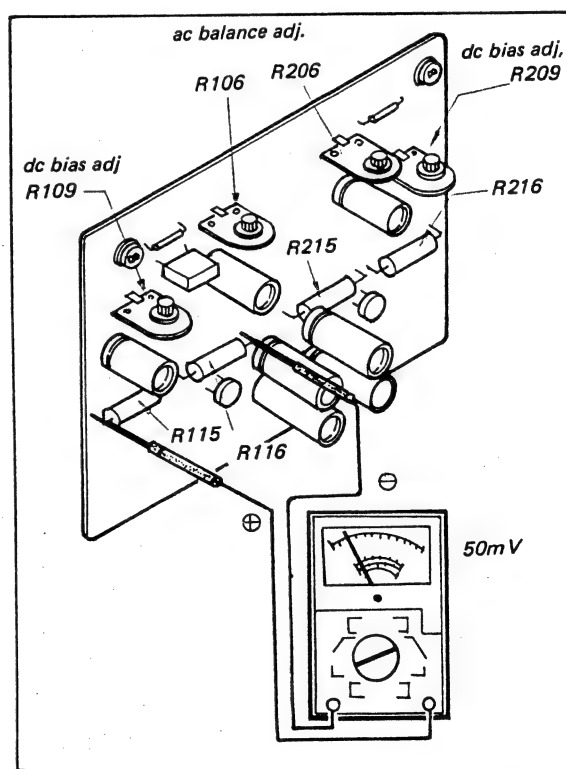

Fig. 3-1 Connection of dc voltmeter across R115 and R116
To avoid accidental power transistor damage, increase the ac line voltage gradually, using a variable transformer, while measuring the voltage across emitter resistors R115, and R116 (or R215 and R216) as shown in Fig. 3-1. Check to see that the reading does not exceed 50 mV. If it does, turn off the power immediately, then check and repair the trouble in the power-amplifier board.
2. Connect the dc millivoltmeter between R115 and R116 (R215 and R216) as shown in Fig. 3-1.
1. Apply a drop of cement solvent to the semifixed resistors (Fig. 3-1) on the power-amplifier board, and then wait a few seconds for the cement to dissolve.